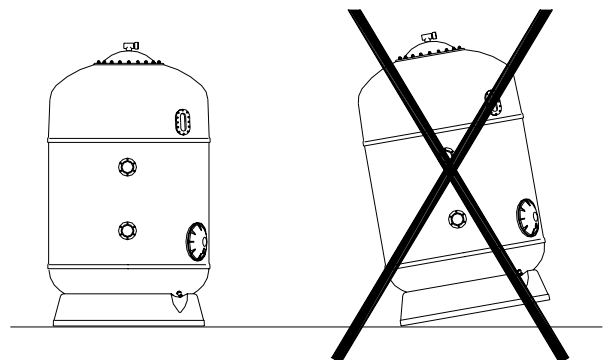

Fig. 2
- Place the filters in their designated position, and ensure that they are stable and the floor is perfectly flat. (Fig. 2)